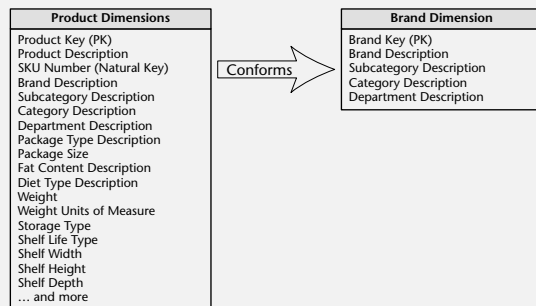

Figure 16: Conforming Rollup Dimension Subsets
- Attributes that are common to both the detailed and rolled-up dimension tables, such as the *brand* and *category* descriptions, should be **labeled, defined, and valued** identically in both tables, as Figure 16.